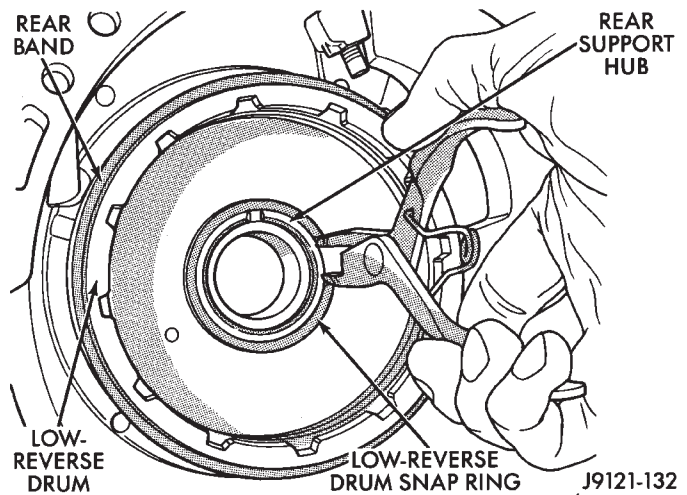

Fig. 81 Low-Reverse Drum Snap Ring
- (27) Remove snap ring that secures low-reverse drum to rear support hub, however do not remove drum (Fig. 81).